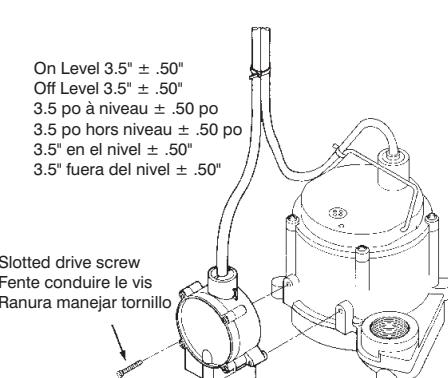

Figure 2
2. For installation on Little Giant 6-CIM-R or 6-CBM-R pumps, refer to Figure 2. Attach the RS-5LL directly to the 6 series pump housing using the two slot drive screws provided, as shown in Figure 2. Use the cable ties provided to secure the power cords together. To ensure proper operation of pump and switch, place pump on a solid surface in water at least 1" deep.
2. Pour l'installation des pompes 6-CIM-R ou 6-CBM-R de Little Giant, consulter la Figure 2. Fixer le RS-5LL directement au boîtier de la pompe de série 6 à l'aide des deux clous vissés fournis, tel qu'illustré à la Figure 2.